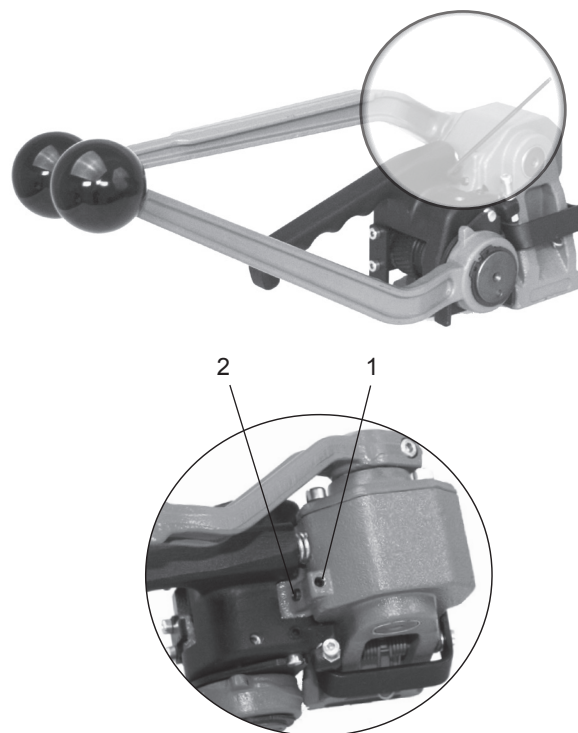

Fig. 9
- Loosening screw (Fig. 9/1) to release adjusting screw (9/2).